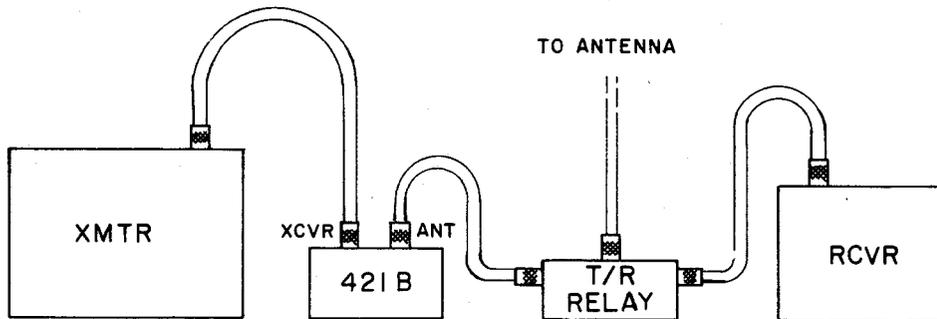

FIGURE 2.
- () Connect the power meter between the transmitter and the T/R switch or relay using the hook-up cable just made, as shown in Figure 2.